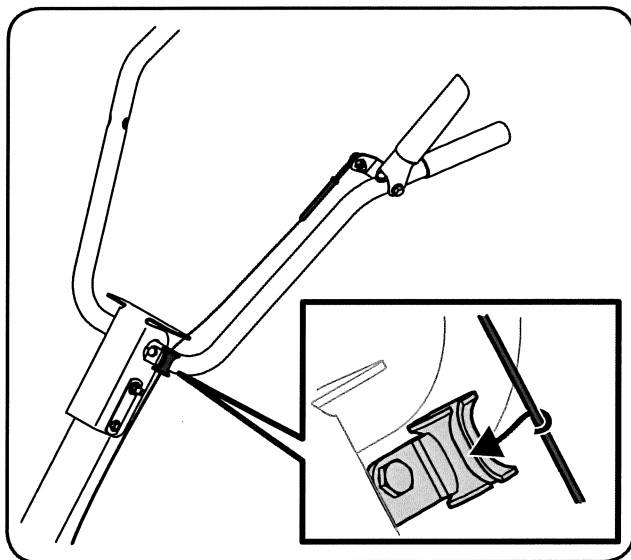

Figure 3-7
- When the handle is in place, insert the clutch cable into the cable guide on the handle as shown in Figure 3-7.